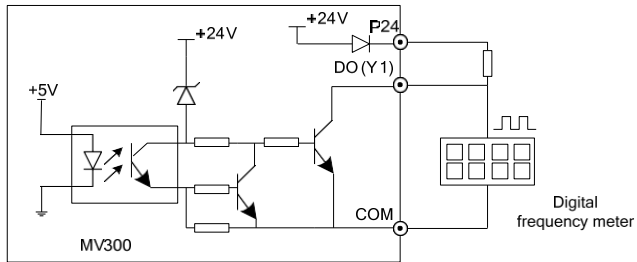

Fig. 3-19 Connecting mode 1 of output terminal DO
3. When the digital pulse frequency output DO (Y1 terminal used as DO) uses the internal 24V power supply of the drive, the wiring mode is as shown in Fig.3-19.